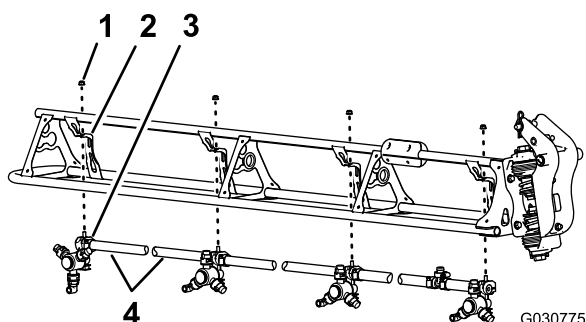

Figure 119
1. Cut the hose between 2 sprayer nozzles (Figure 119).
2. Remove the flange locknut (5/16 inch) that secures the sprayer nozzle to the nozzle support (Figure 119).